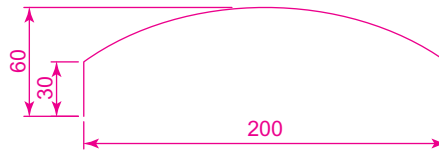

Fig. 17.27 Example – Edgesurf – pline outline
3. Construct the polyline to the sizes and shape as shown in Fig. 17.27.